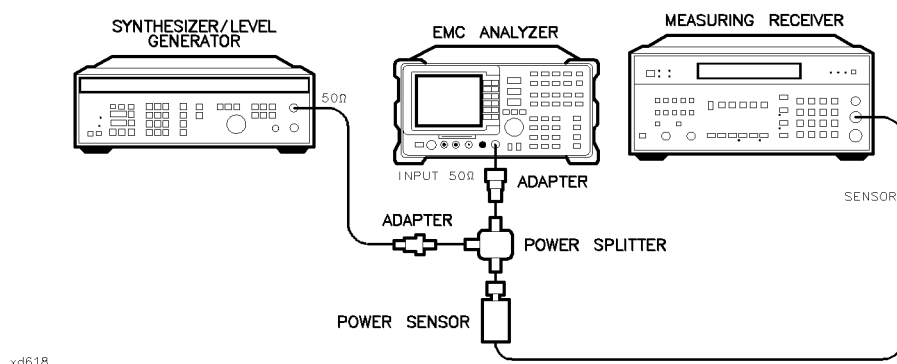

Figure 2-32. Frequency Response Test Setup, <50 MHz, HP 8596EM
34. Connect the equipment as shown in Figure 2-32, with the power sensor connected to power splitter.